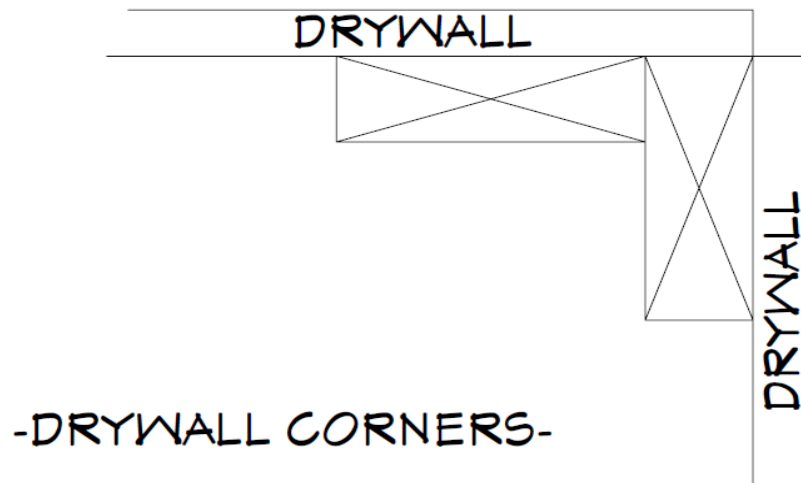

Figure 14-1. Outside Corner Installation of Sheetrock.
13. On outside corners of walls, install a piece of sheetrock on the first wall so its corner side edge is flush with the outside edge of the corner stud. Score and snap (or saw-cut) this piece flush to the corner. (An acceptable tolerance is a maximum of ¼" short of the corner, but do not allow the piece to extend past the outside edge of the corner stud.) Form a recessed corner by installing the second sheetrock piece on the adjacent wall so its edge is flush with the other outside edge of the corner stud. The outside corner ends of the sheetrock should not overlap the corner. See Figure 14-1 for desired outside corner orientation.